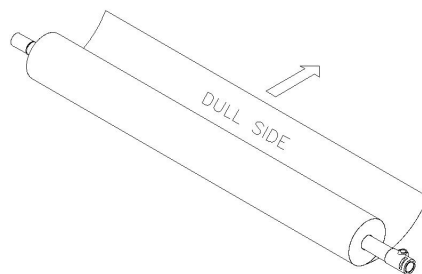

Figure 4
3. For the bottom supply roll, remove the feed table. Place the mandrel ends into position in the lower mandrel holder slots. Return the feed table to its proper position before operating the laminator. If you are at the front of the laminator the film should unwind away from you at the bottom of the roll as in Figure 4 below.